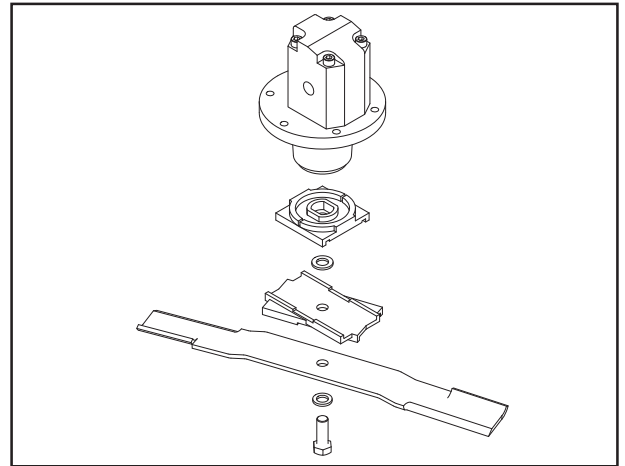

Fig.22
3. Fit new blade. (Fig.22)
3. Replace blade assembly in sequence shown (Fig.22) over hydraulic motor spindle.